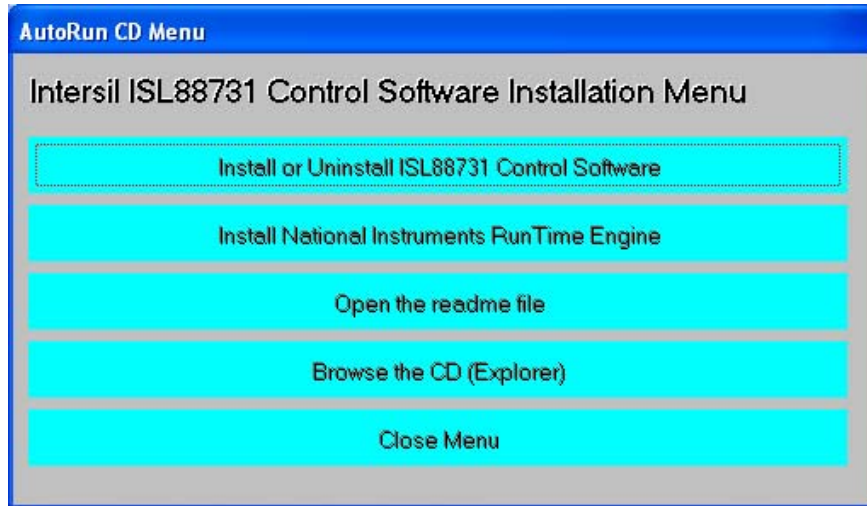

FIGURE 2. ISL88731(C)EVAL2Z CONTROL SOFTWARE INSTALLATION MENU
Both the ISL88731(C) control program and the National Instruments run time engine are installed from the "ISL88731 Installer" folder. Navigate to the folder and double click the "AutoRun.exe" file. You should see the window as shown in Figure 2.
Follow the instructions to install the Runtime Engine. If it does not run automatically, click “Install National Instruments Runtime Engine” on the ISL88731(C)EVAL2Z Control Software Installation Menu (see Figure 2). After installation, click on the Close Menu button.